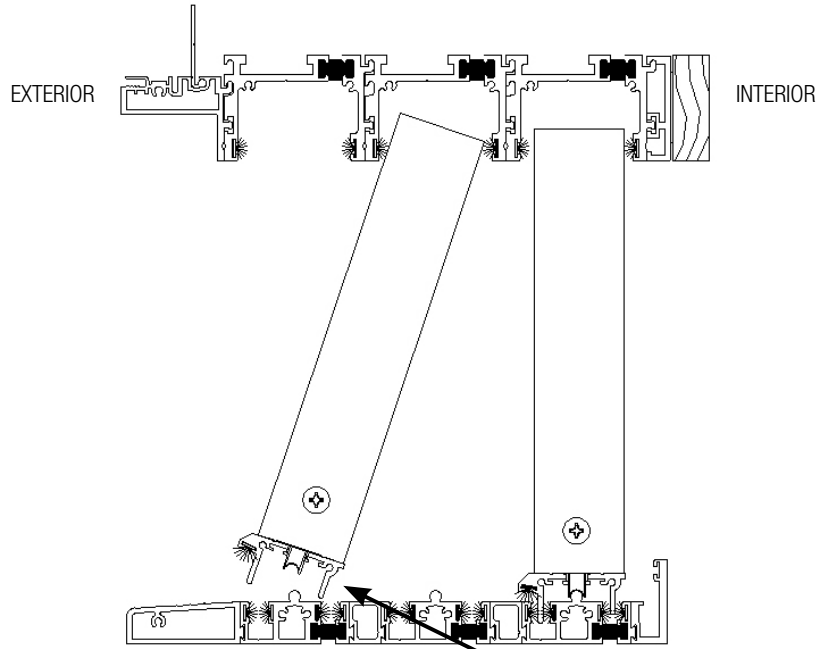

FIG. 17
- B) Beginning with lead panel, holding the panel at an angle toward the head track, insert the top of the panel into the inner most head track and swing the bottom of the panel inward until it is parallel with the top and sits with the wheels on the corresponding sill as shown in Fig. 17.